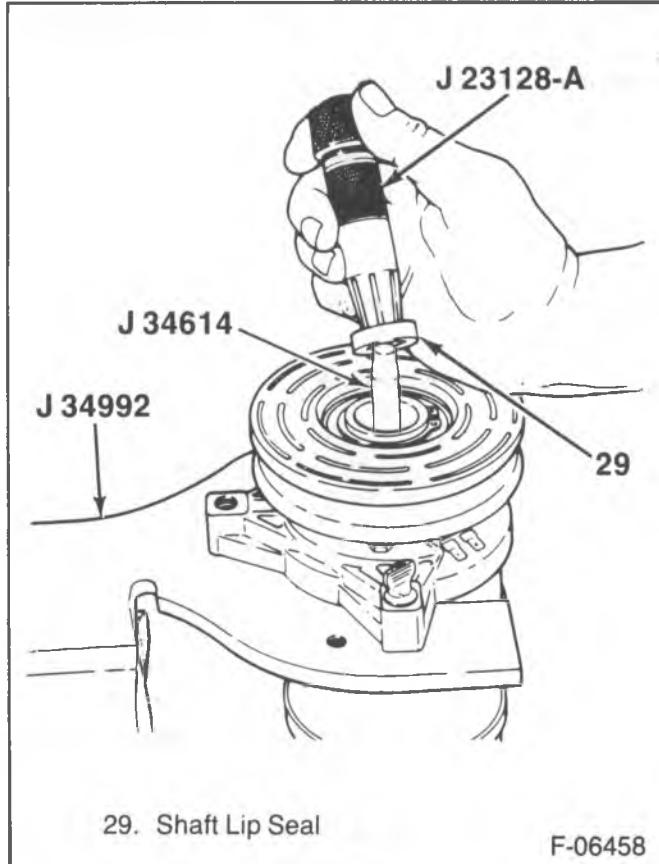

Figure 22—Removing or Installing the Shaft Seal
1. Clutch plate and hub assembly (22).
2. Shaft seal retainer ring using J 5403 (figure 22).
- Clean the compressor neck area around the shaft (38), the exposed part of the shaft seal (29) and the O-ring seal groove.
- 3. Shaft lip seal using J 23128-A (figure 22).